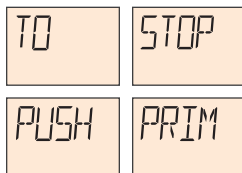

Figure 2-28 TO STOP PUSH PRIM
4. Display will read TO STOP PUSH PRIM (Figure 2-28).
3. Display will read TO STOP PUSH PRIM (Figure 2-28).